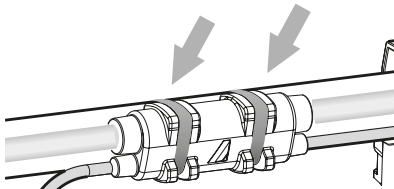

Fig. 17
**6** Respect the position of the connectors and do not force their insertion: the position is correct when guides **A** (Fig. 17) engage in the relevant slots.